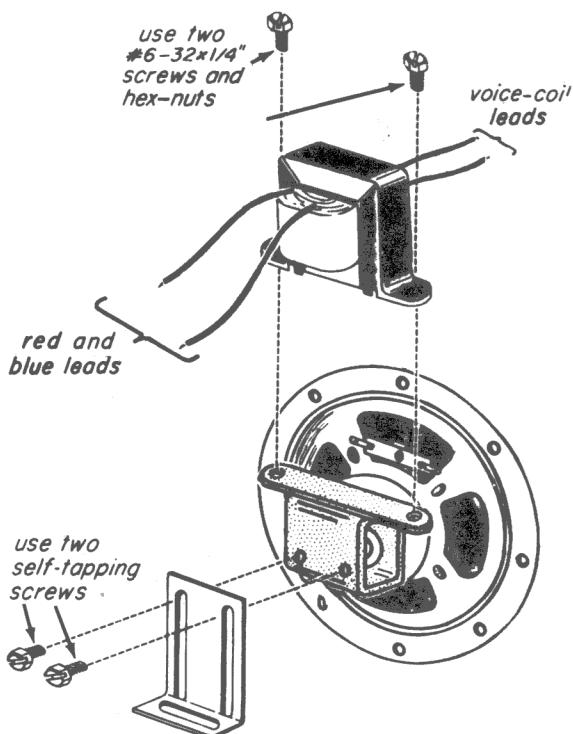

Fig. 24-3
Step 8. Mount the output transformer on the speaker, as shown in Fig. 24-3. Attach the speaker bracket to the speaker as shown in this figure, but do not tighten the screws completely.